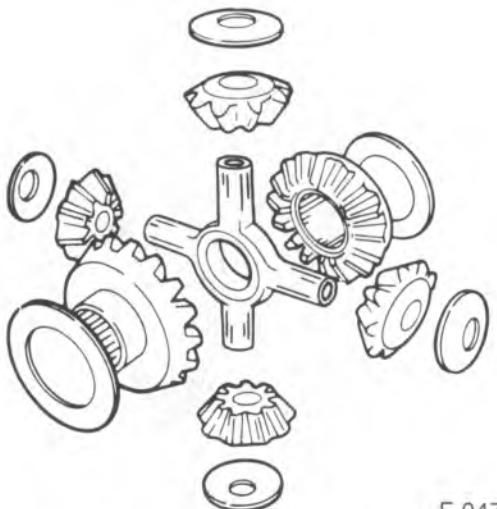

Figure 20—Differential Components
- Measure the pinion bearing shims (50). If a new pinion and ring gear set is installed, the pinion bearing shim pack must be adjusted.
- Examine the heads of the new and old drive pinions. Compare these codes, and adjust the pinion bearing shim pack accordingly. The chart in figure 20, shows the proper adjustment to be made to the shim pack.
1. Pinion bearing shims (50) to the pinion cage.
2. The pinion cage (54) to the axle housing.